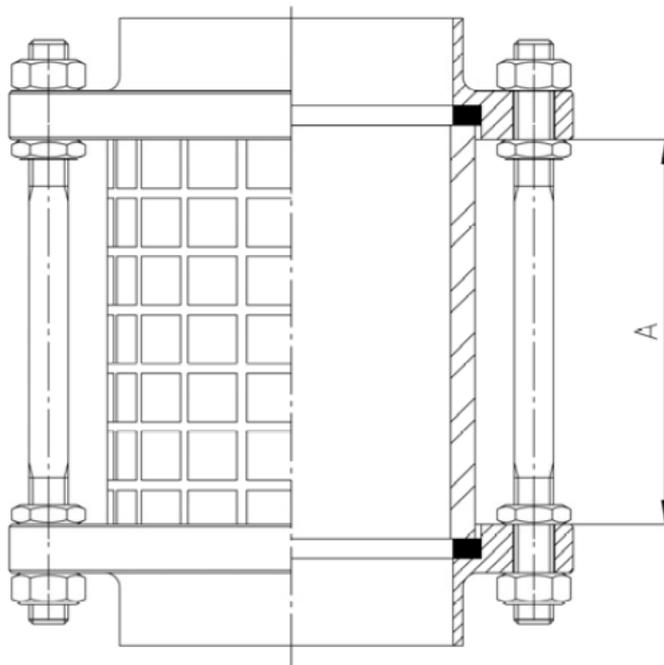

Figure 2 Cylinder sight glass , adjustment dimension A
- Determine adjustment dimension A (see Fig.2).
- Remove hexagon nut (7) from one side.
- Axially disassemble the connection socket (1 or 2), gaskets (4) and glass cylinder (3).